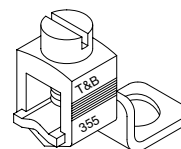

FIG. 4: Ground Lug
- b. Connect ground wire to Ground Lug located inside console near strain relief opening. See FIG. 4.